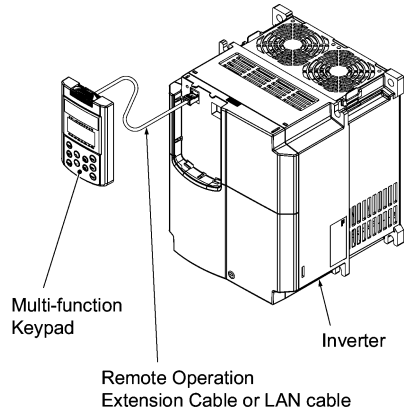

Figure 2.3 Using Multi-function Keypad remotely in Your Hand
- Use it remotely in your hand (see Figure 2.3).